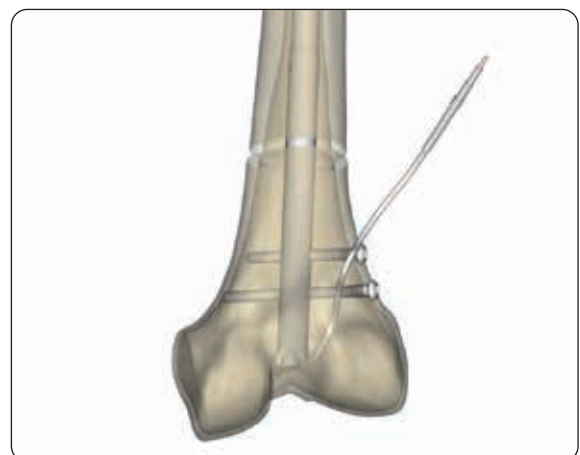

Fig. 58 Final cable position
**PRECAUTION:** The cable must enter the bony tunnel as close as possible to the point it exits from the implant. If not, it may occur that a fiber of the patella tendon is captured, which might cause severe damage to the cable. (Fig. 58)
**NOTE:** 4mm screws with a single thread option are used for all TAA09 Fitbone nail variants. 4.5mm screws with two thread options are used for all TAA11 and TAA13 Fitbone nail variants. The longest thread possible, without interaction between nail and thread, should be selected. (Fig. 58)